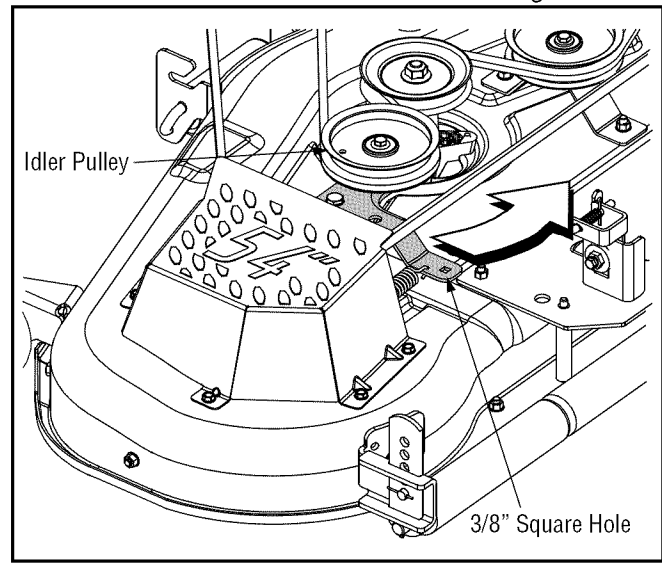

Figure 19
- Insert a 3/8"-drive ratchet wrench (set to *loosen*) into the square hole found in the idler bracket on the left side of the deck's surface. See Figure 19.